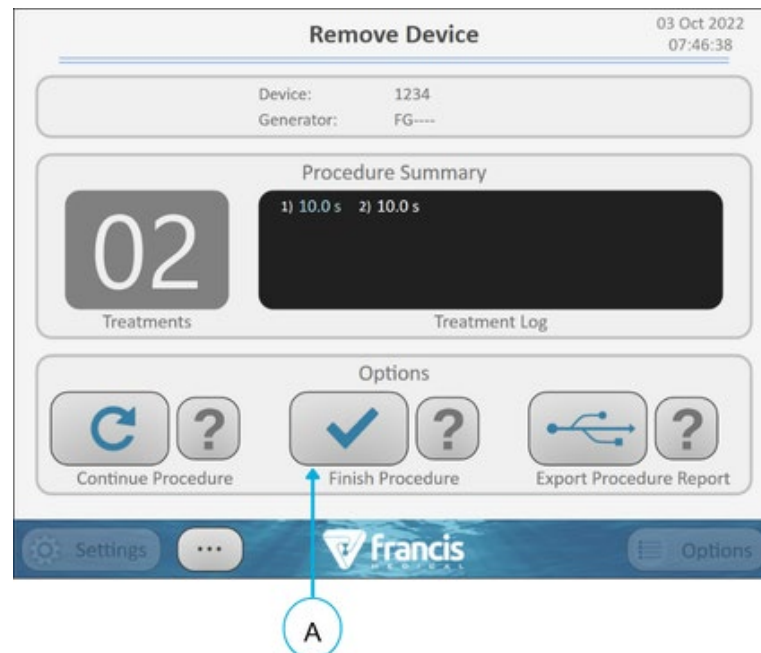

Figure 13-2: Remove Delivery Device Screen
6. Select [**Confirm**] to remove the Delivery Device (B).
- Select [**Cancel**] to exit without removing the Delivery Device (A)
7. Select [**Finish**] (A) on the **Remove Device** screen to complete the case (Figure 13-2).